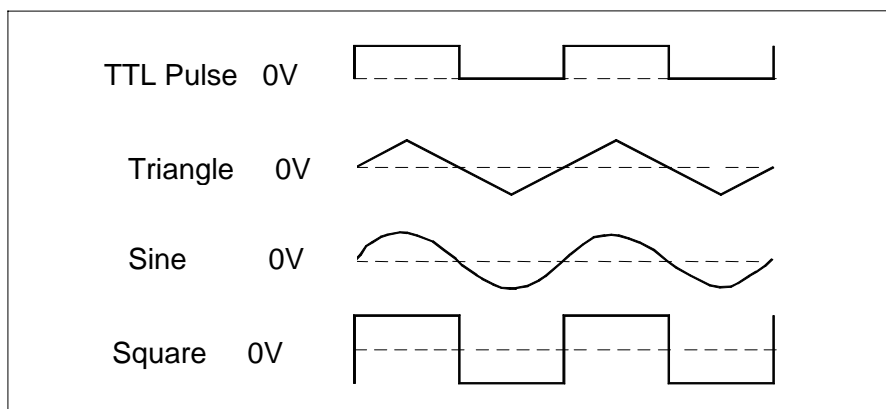

FIG. 3 OUTPUT WAVEFORMS AND PHASE RELATIONSHIPS
- F. Select sine, square, or triangle wave output by pressing the corresponding FUNCTION button. FIG 3. illustrates the output waveforms and their phase relationships.